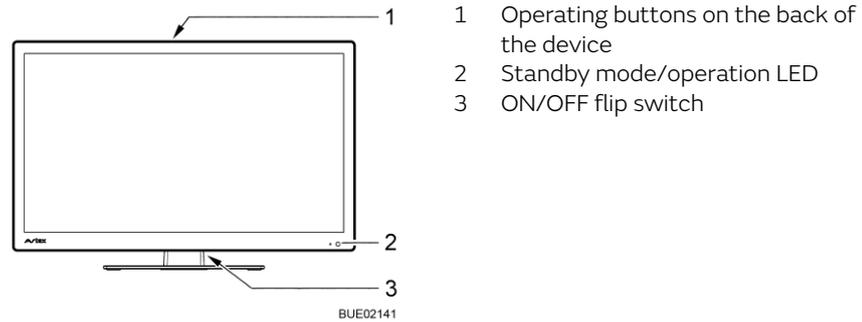
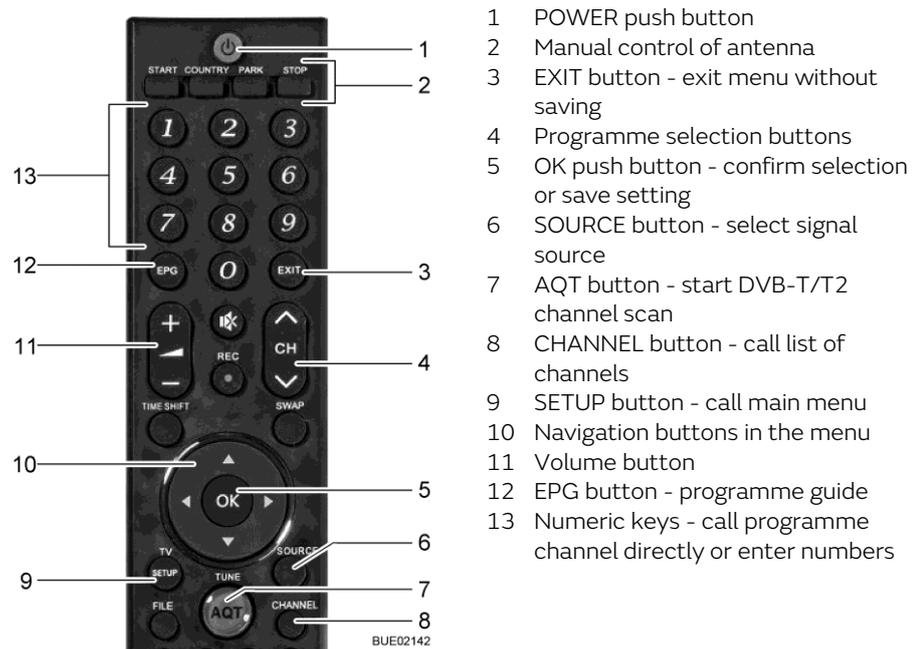

Fig. 45 Operation on the flat screen
Fig. 46 Remote control
Switching on the unit: ■ Set flip switch (Fig. 45,3) on the flat screen's back to ON. The system changes to standby mode. The LED (Fig. 45,2) is lit red.
■ Press the POWER button (Fig. 46,1) on the remote control. The LED (Fig. 45,2) is lit blue.
Choosing a TV programme: ■ Press the programme selection buttons (Fig. 46,4 or Fig. 46,13) until the desired TV programme has been selected.
Choosing the signal source: ■ Press the SOURCE button (Fig. 46,6) repeatedly until the desired signal source has been selected.
- Press the PARK button (Fig. 46,2). The antenna moves into parking position.
- Press the SOURCE button (Fig. 46,6) repeatedly until the desired signal source (e.g. DVD) has been selected.
- Press the POWER button (Fig. 46,1) on the remote control. The system changes to standby mode. The LED (Fig. 45,2) is lit red.
- Set flip switch (Fig. 45,3) on the flat screen's back to OFF.